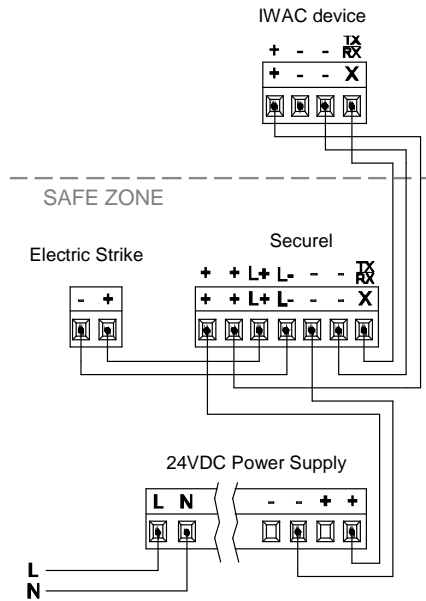

Figure 3. Access Control System connection diagram.
- **Inputs (4):** input ports for the insertion of the stripped cables of external elements such as switches / motion detectors / temperature probes, etc. One of the two cables of each element need to be connected to one of the slots labelled “1” to “2”, while the other cable should be connected to the slot labelled as “C”. Note that all the external input devices share the “C” slot for one of the two cables. Please secure the connection by means of the onboard screws.
- **Auxiliary power supply (8):** external power of IWAC Display v2 is supplied from Securel (see Figure 3).
- **Encrypted communication port (9):** input port to connect with Securel to make it possible the communication between both devices.
Figure 3 shows a connection diagram of IWAC, Securel, power supply and electric strike: